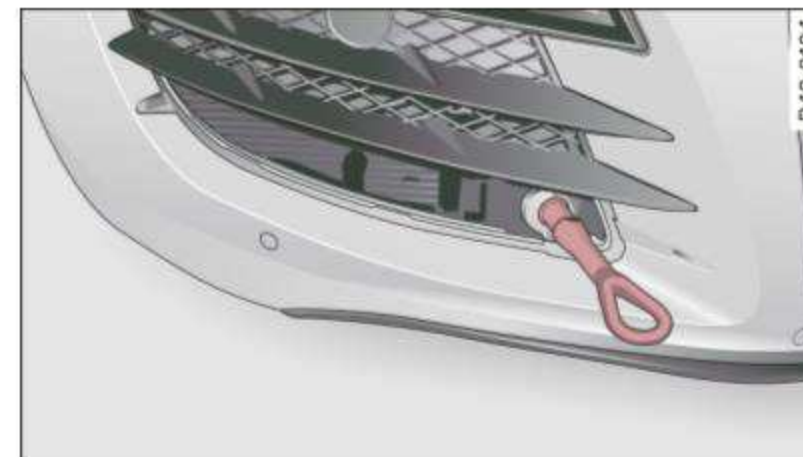

Fig. 136 Right front bumper without grille: Towing loop fully screwed in
- Screw the towing loop tightly into the threaded hole as far as it will go ⇒ *fig. 136*.